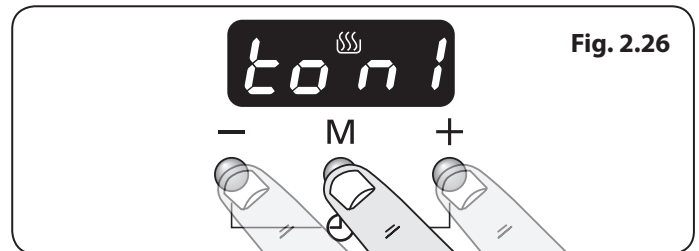

Fig. 2.26
1. Press the the [+] and [-] buttons simultaneously, then the mode [M] button. The display will show (ton1,2 or 3) (**Fig. 2.26**).